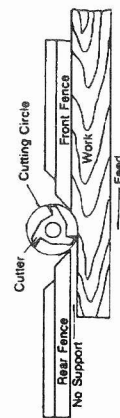

Fig. 9
2. When the shaping operation removes the entire edge of the work (i.e. jointing or making a full bead), the shaped edge will not be supported by the rear fence when both fences are in line as shown in Figure 9. In this case, the workpiece should be advanced to the position shown in figure 9 and stopped.